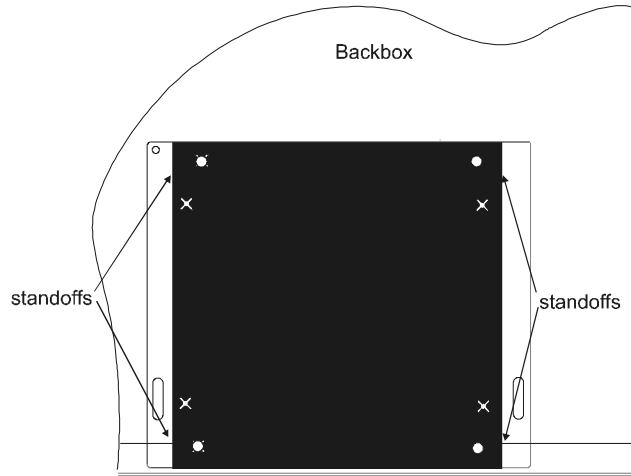

Figure 3
3. Install the supplied module insulating pad on the MULTIMOD-BRKT bracket by aligning the four outer holes with the four standoffs on the bracket and pressing the pad onto the standoffs and flat against the bracket as illustrated in Figure 3.